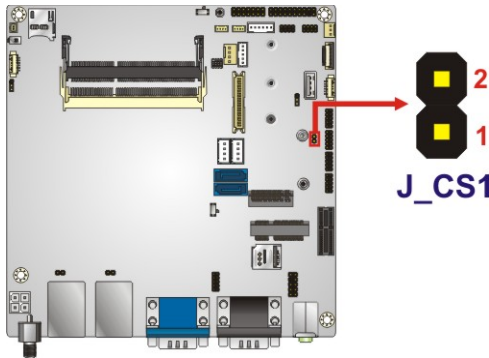

Figure 3-4: Chassis Intrusion Connector Location
- CN Location:** See **Figure 3-4**